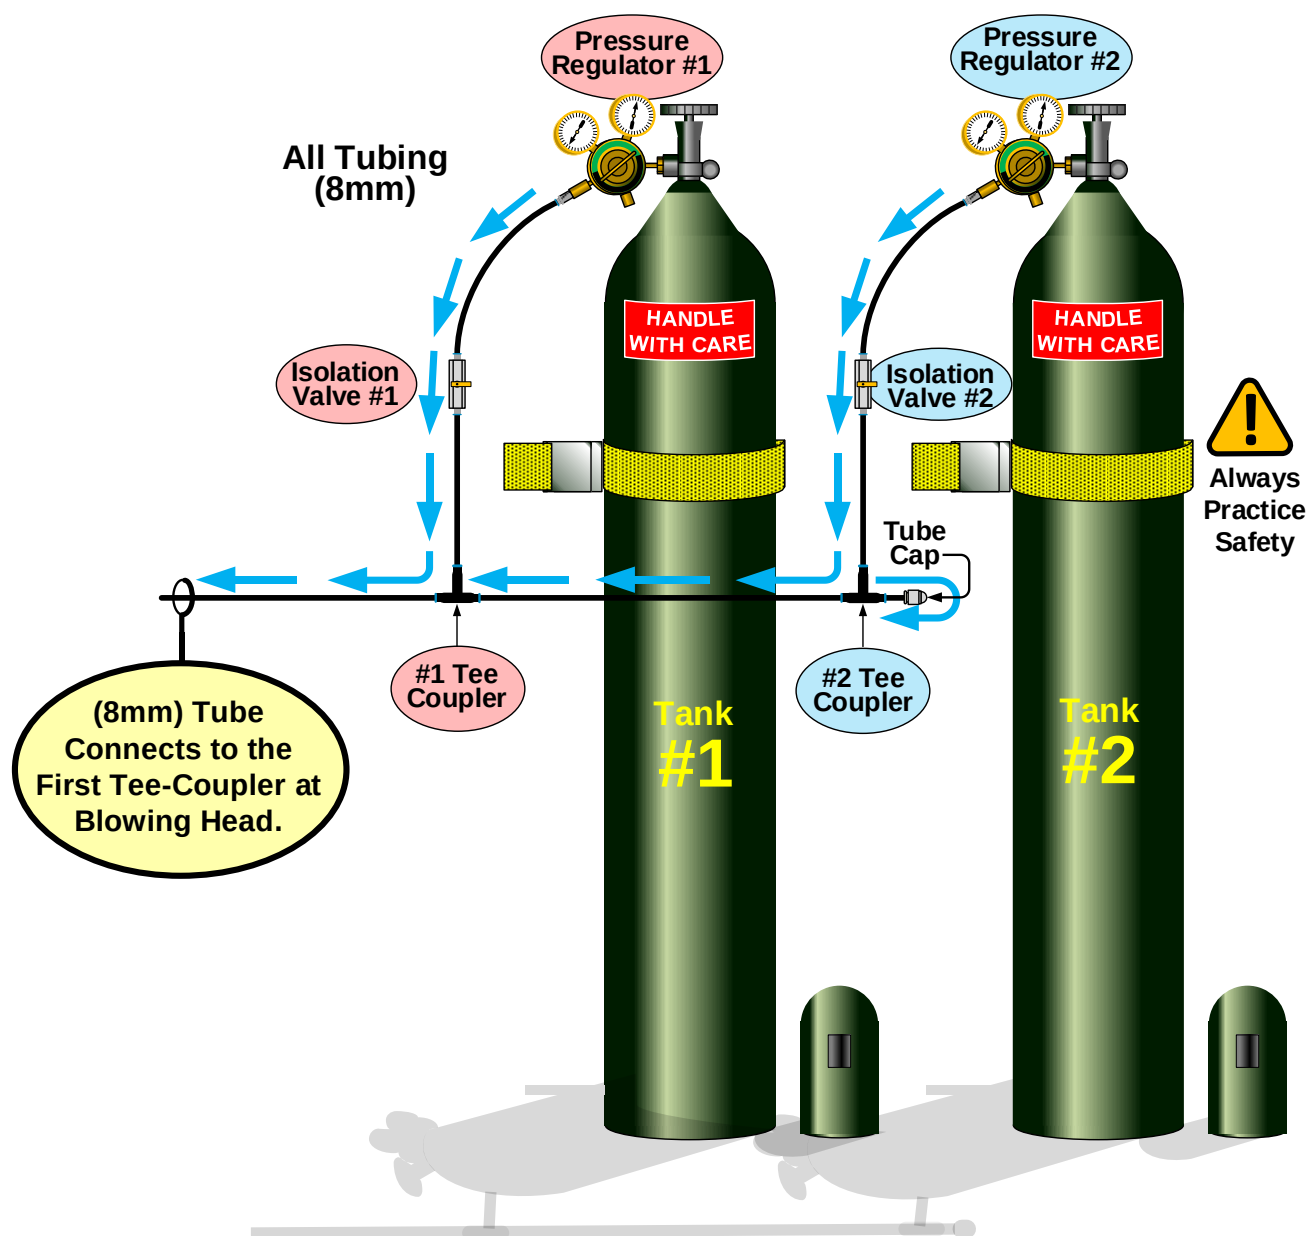

Figure 31
12.7 Push-fit the "Installer Provided" lengths of 8mm tubing between Pressure Regulators #1 and #2, Tube Adapters-(8mm) and the Tee-Couplers supplied in the Dual Tank Isolation Valve Kit. (3' - 4' length suggested.) **See Fig. 31.**
12.8 Push-fit the "Installer Provided" length of 8mm tube between the Tee-Couplers supplied in Dual Tank Isolation Valve Kit. (1' - 2' length suggested.) **See Fig. 31.**
12.9 Push-fit the "Installer Provided" length of 8mm tube between Tank #2 Tee-Coupler and the Tube Cap supplied in the Dual-Tank Isolation Valve Kit. (3" - 4" suggested.) **See Fig. 31.**
12.10 Push-fit the "Installer Provided" length of 8mm tube between Tank #1 Tee Coupler and the First Tee Coupler at the Blowing Head. (3' - 4' length suggested.) **See Fig. 31.**
Tip: It is best to set up Dual Tank equipment in configuration/arrangement as shown in **Fig. 31**. Excess tubing lengths are not desired. Keep things organized to improve access to both Isolation Valves later.